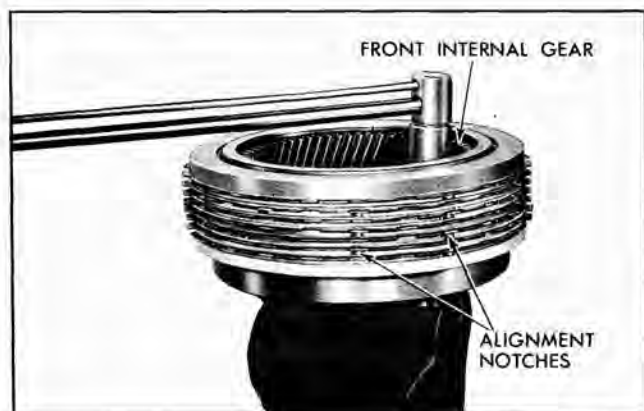

Fig. 83 Torquing Front Clutch Bolts
6. Inspect 7 drive and 7 driven clutch plates, check for foreign particles embedded in plates. Check for excessive wear on clutch plates such as metal spots appearing through the facing material on the drive plates or deep cuts in the steel driven plates. The steel driven plates are waved and a wear pattern will appear at the high points of the wave, this is normal wear pattern and should not be replaced for those bright spots. The drive plates with the facing material will appear discolored after a few hundred miles, this is a normal reaction from the oil absorbing characteristics of the facing material. The drive plates are flat and an even wear pattern will appear over the entire area. See Fig. 83 for proper unnesting of clutch plate notches on assembly.
8. Place entire assembly in soft-jawed vise with vise engaging large teeth on clutch housing (Fig. 83).